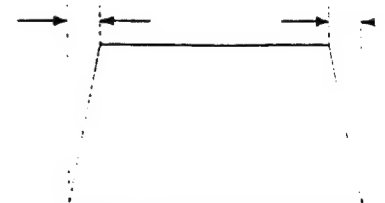

Figure 9
3. Press and rotate the Encoder to let $Y \leq 2.0$ mm (See Fig 9).